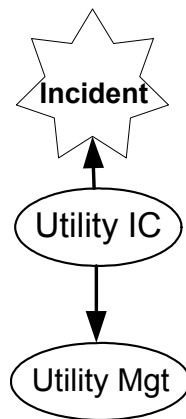

Figure 4: Utility IC Reporting to Utility Mgt
When the incident is a utility-specific event (such as a major water main break, or damage to a treatment plant, water pump, or enclosed clean water reservoir, etc.) the first utility responder to the scene becomes the Incident Commander (IC). The role of command remains at the field scene. The IC characterizes the scene, assesses the impact to the immediate surroundings, manages access to the scene, monitors the conditions and can best identify the resources required and where incoming resources specifically report. Additionally, the IC communicates with the utility's management, who directs all available resources of the utility to address the need of the emergency. In this case, the communication from the scene is a direct connection to the utility management. **Figure 4** demonstrates this direct communication link to the utility management where the decision to request mutual aid/assistance is made. Command remains in the field with the IC until command is transferred to another person in the field who is more qualified to handle the event, or the designated time for shift change is reached.